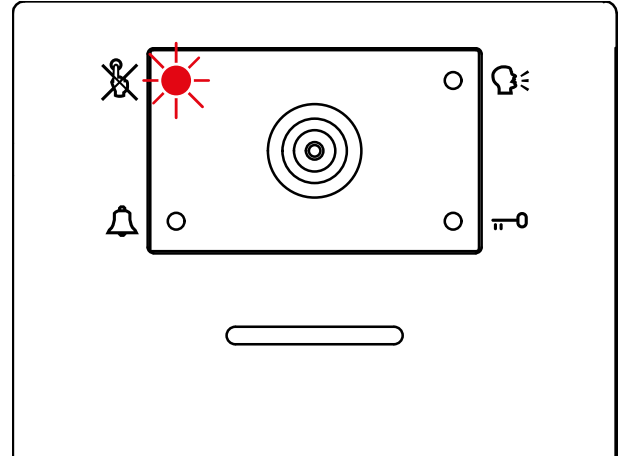

Fig. 8 Calling a busy indoor station
- If the called indoor station is busy the  red LED flashes (Fig. 8) 4 times quickly and the unit emits a deep tone on each flash.